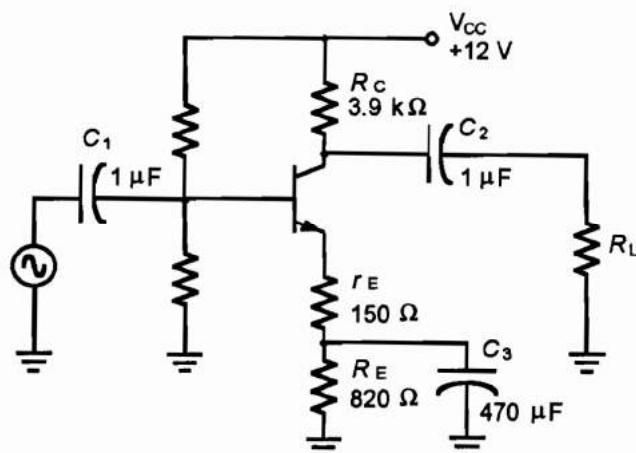

Figure 17.3
- Turn off the circuit power. Modify your circuit to the swamped amplifier of Figure 17.3. Apply the circuit power. Set the function generator to apply a 20 mVp-p, 1 kHz input signal, using your oscilloscope. Measure and record the amplifier input and output signal values. Then calculate the amplifier loaded voltage gain.
- A. In Procedure step 5, the average value of the output signal was not zero. Calculate the average value from the data of Figure 17.3.
- B. What is the circuit parameter value represented by the average value  $V_{avg}$  of part A? Explain why you obtained the collector waveform values recorded in Figure 17.3.